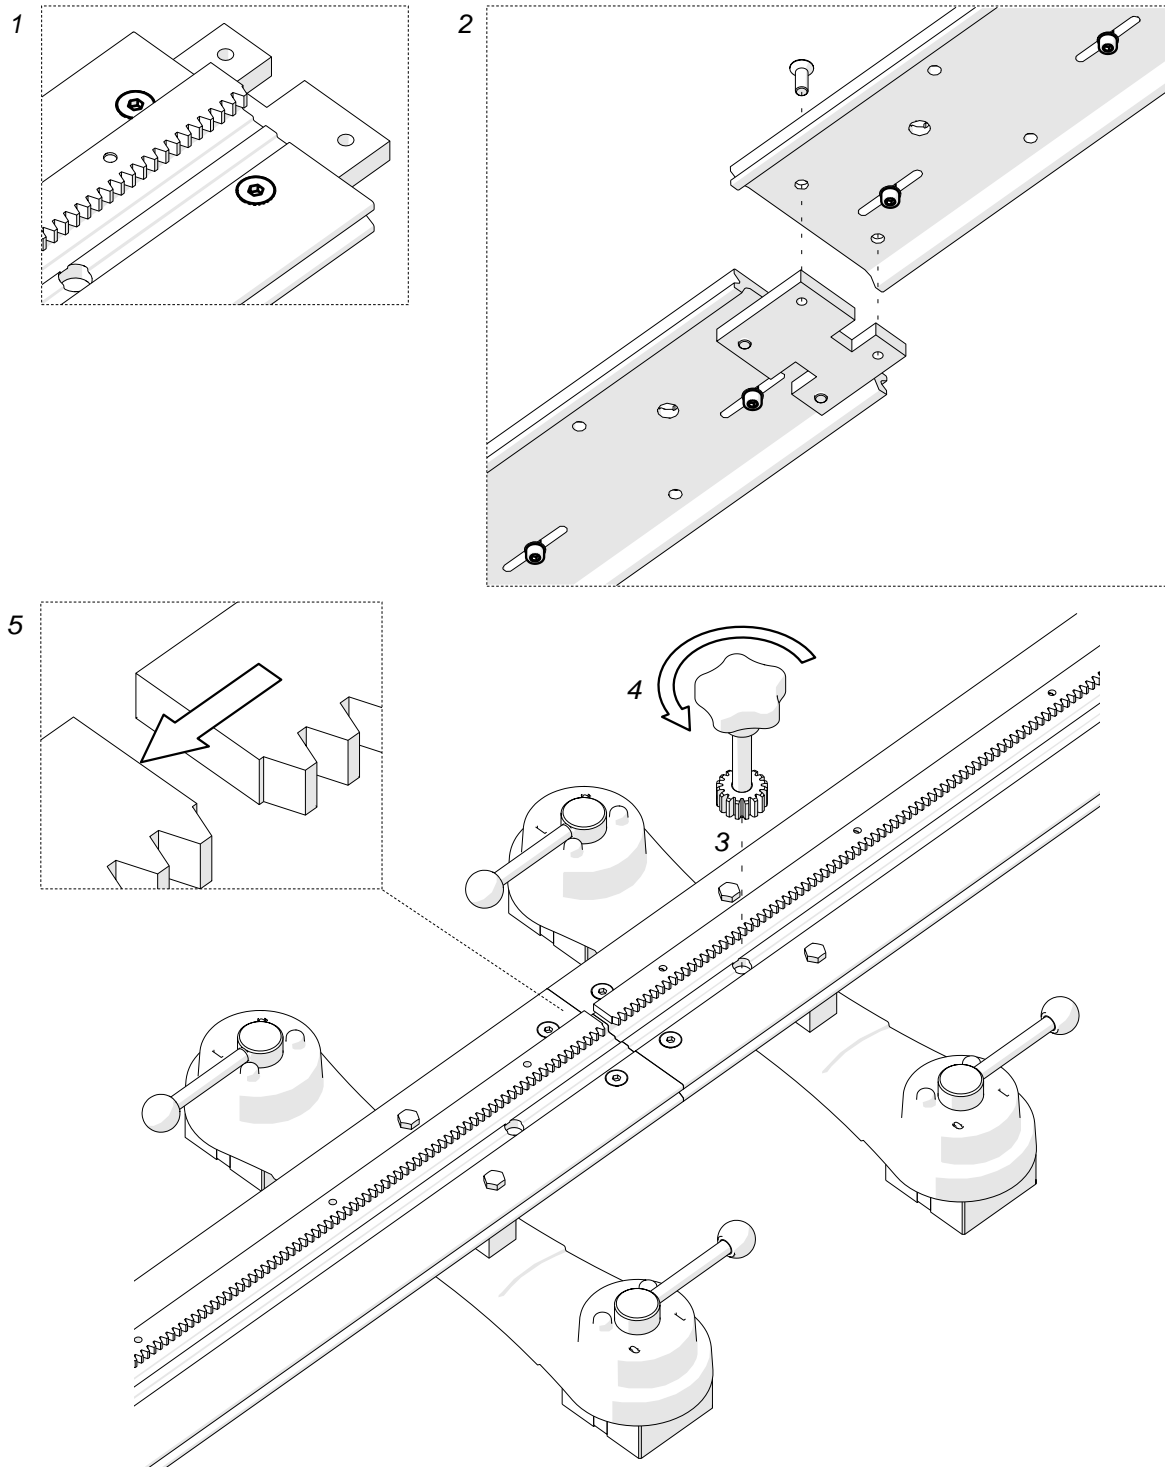

Fig. 4. Removing the gap between the gear racks of a semi-flexible track
Before attaching additional rails to a semi-flexible rail placed on a curvature, use the 4 mm hex wrench to loosen the screws of the connecting plates (1, Fig. 4) and of the gear racks (2). Next, attach the rails, clamp them with levers, and then tighten the connecting plates. Place the gear rack adjustment tool (not included) into the hole (3), rotate the tool to the left (4) to remove the gap (5) between the gear racks, and then tighten the leftmost screw and the rightmost screw of each gear rack (2).